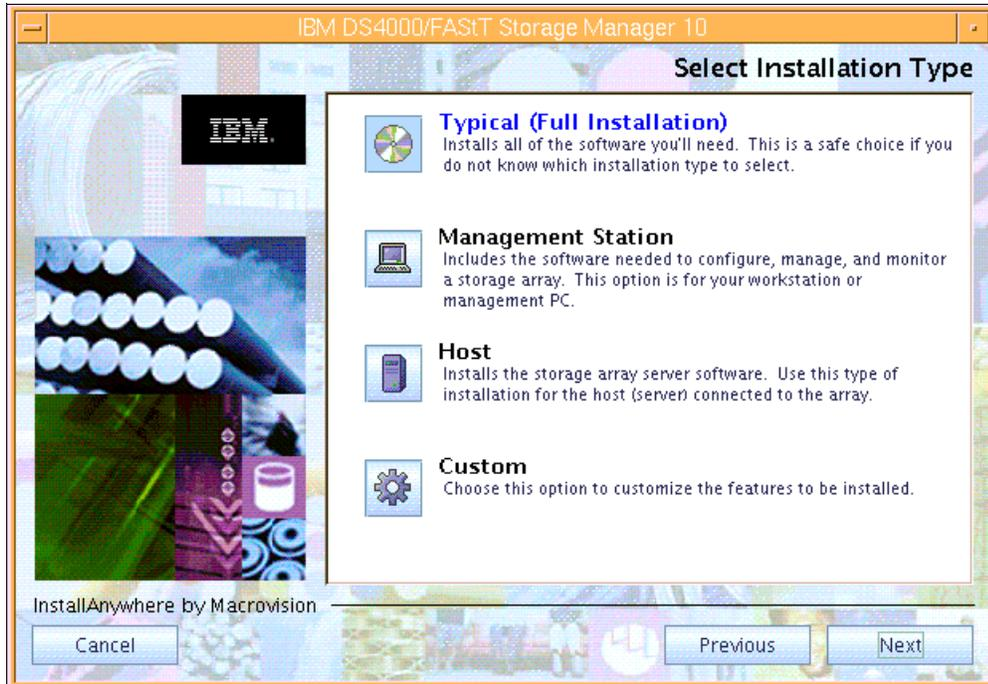

Figure 4-46 Installing Storage Manager software in AIX
6. Now select the installation type, as shown in Figure 4-46: